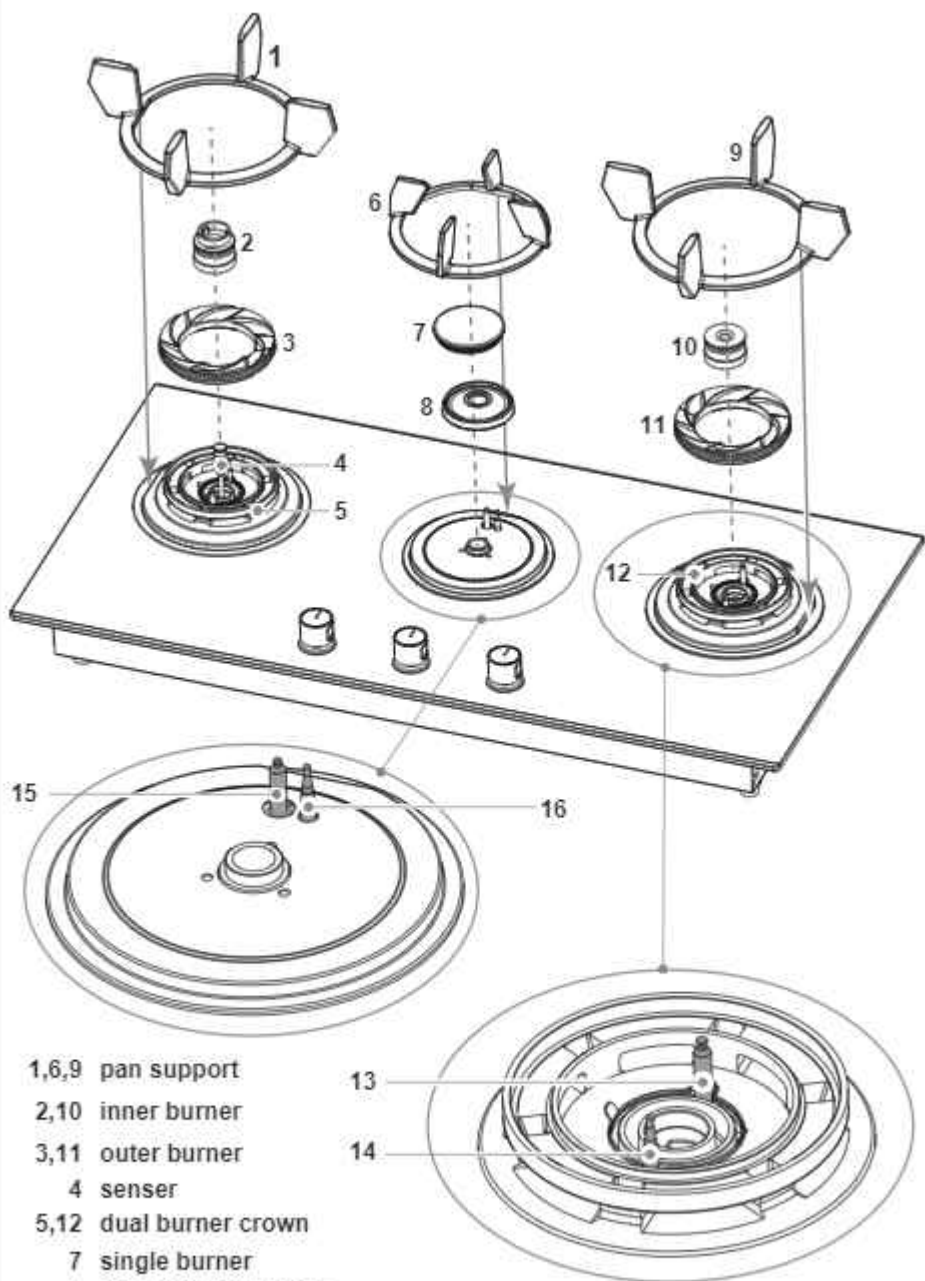

Fig. 3.1
- Check that the electrode/s "G"(figs. 3.1) next to each burner is/are always clean to ensure trouble-free sparking.
- Check that the probe/s "P"(fig. 3.1) next to each burner is/are always clean to ensure correct operation of the safety valves.